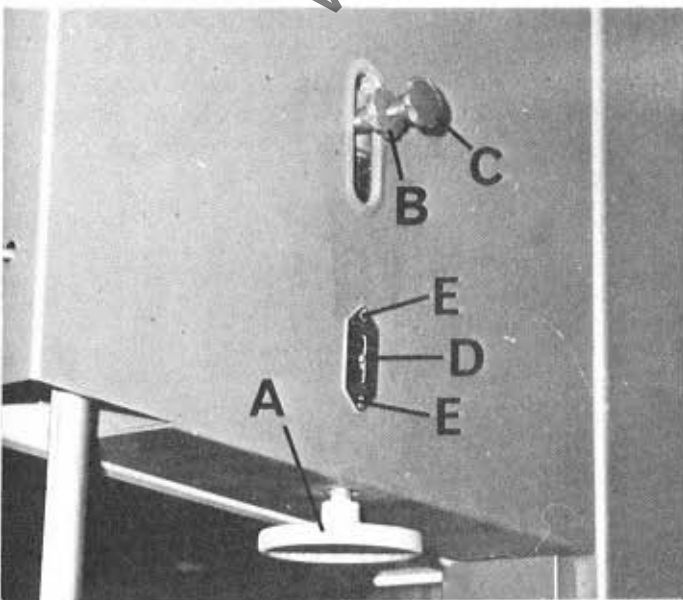

FIG 6
5. Lower top wheel assembly by handwheel "A" in FIG.6, sufficient to allow blade to be fitted on both wheels.
7. Turn tensioning handwheel "A", FIG.6, until blade is just held on the wheels.
2. If not running central, loosen handwheel "B", FIG.6, then turn handwheel "C" until saw is tracking correctly, i.e. in the centre of both wheels.
To tension the sawblade, turn the handwheel "A" in FIG.6, until the correct tension is reached according to the scale "D". The scale gives the correct tension for the width of blade which is being used irrespective of the length of the blade.
2. Check whether the scale indicates the correct sawblade width. If scale is incorrect, loosen the two screws "E" in FIG.6, and position scale correctly. When set, tighten screws "E". After the scale has been set in this manner it will read correctly for any width of blade within the range of the machine without further alteration, even if the length of sawblade varies for any given width.